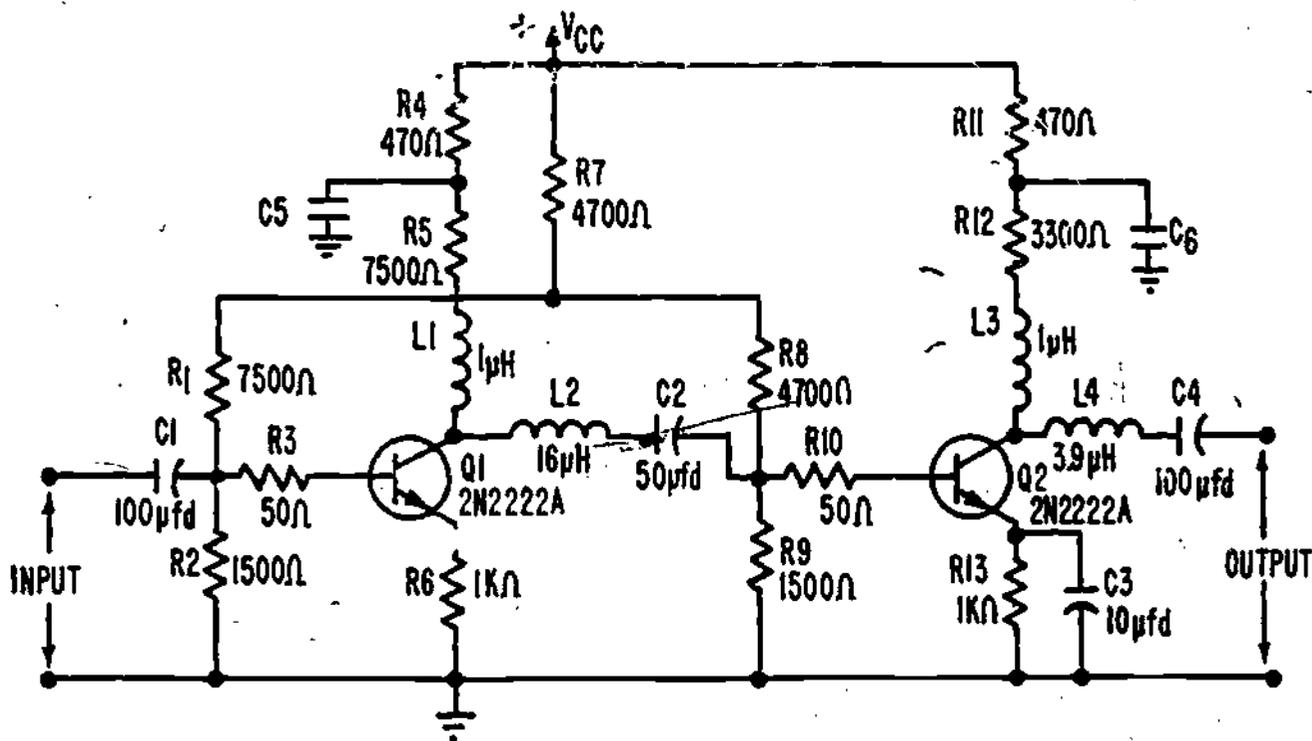

Figure 21
18. Up until now in this lesson, the high and low frequency compensation circuits have been shown in equivalent circuit form. Now let's place them in an actual video amplifier circuit with biasing components present. Figure 21 shows a two-stage video amplifier circuit from the NIDA trainer.
If Figure 21, the two components which provide high frequency series peaking are \_\_\_\_\_ and \_\_\_\_\_.